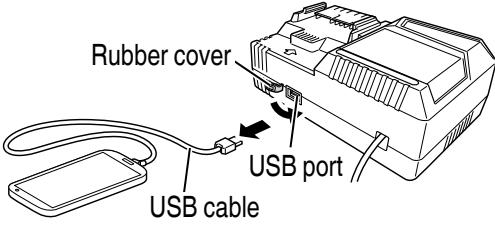

Fig. 9
(3) When charging is completed
- Unplug the power cord from the electrical outlet. **(Fig. 9)**